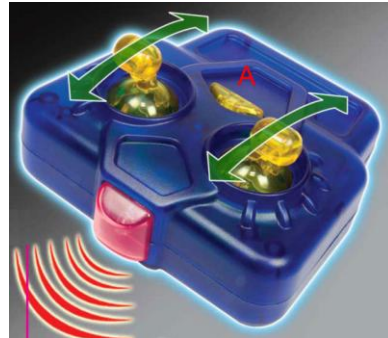

Fig. 19
15. Push the red power button on the robot **and the triangle button (A) on the remote control** to turn it on. Point the remote control towards the unit. Push both control sticks of the remote control forward or backward at the same time to move it in straight line. Move them in opposite directions to make a turn. (Fig. 19)